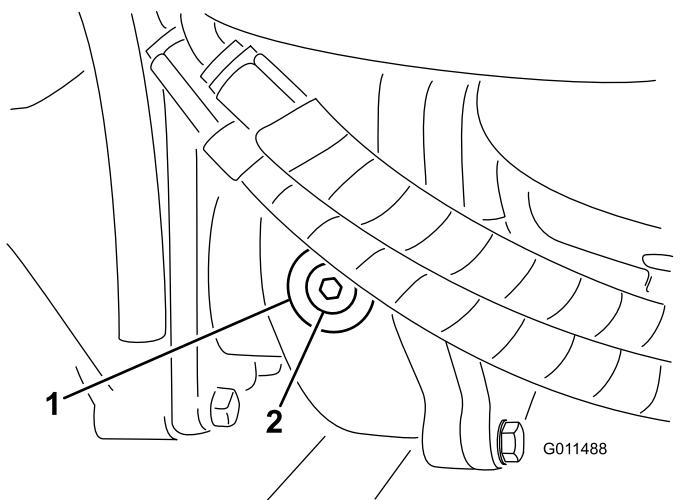

Figure 85
- Remove the check/fill plug from the left side of the gearbox and ensure that lubricant is up to the bottom of the hole (Figure 85).